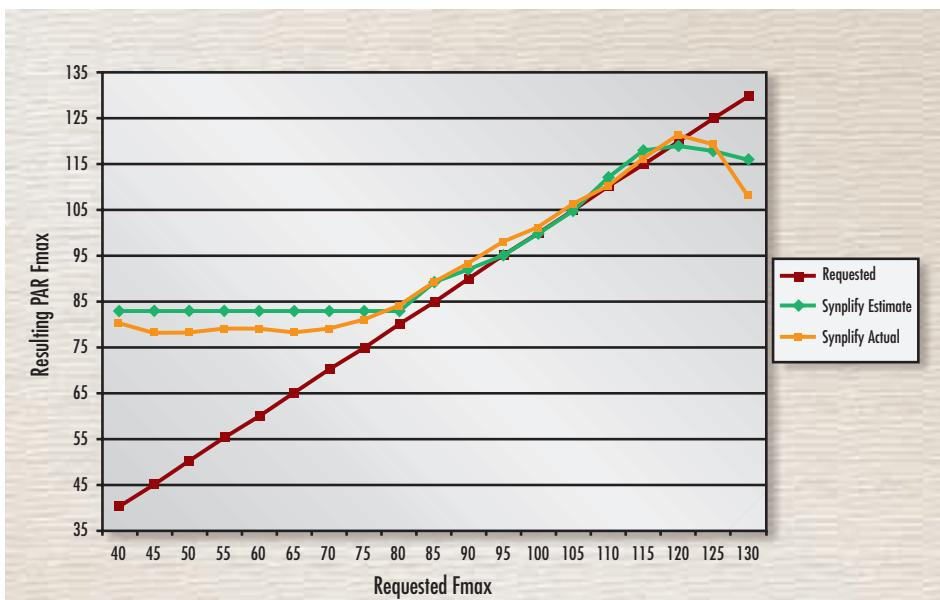

Figure 1 – Place-and-route frequency results meet design goals.
Figure 1 shows a graph of requested and actual maximum operating frequency (F_{max}) for the place-and-route (PAR) results of a design run through the Synplify Pro synthesis tool. The tool's estimates follow the requested frequency line until other critical paths start appearing that the tool cannot optimize. At that point, F_{max} starts to degrade.
2. For designs with both performance and device-size goals, the Synplify Pro engine provides performance on demand. As Figures 1 and 2 illustrate, when requested performance is non-taxing, the LUT count remains very low, which lets you choose a smaller device.